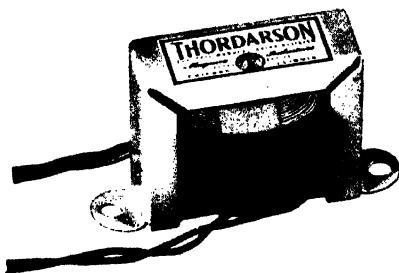

Fig. 17-8. The audio-frequency transformer.
**How to Couple the Audio-Frequency Transformer.** This method of coupling one tube to another is called *transformer coupling*. The transformer used is called an *audio-frequency transformer* (Fig. 17-8). The primary winding has two terminals